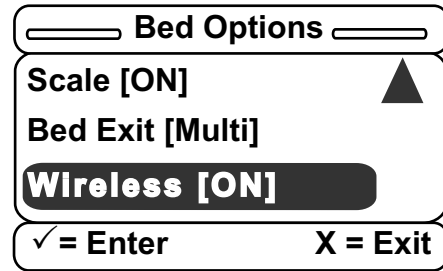

Figure 45 – Bed Options menu
21. After you set the Wireless option, you will return to the Bed Options menu (Figure 45). After text appears in square brackets next to each option in the Bed Options menu, all of your options have been set. You may re-enter any option and change the setting at any time.